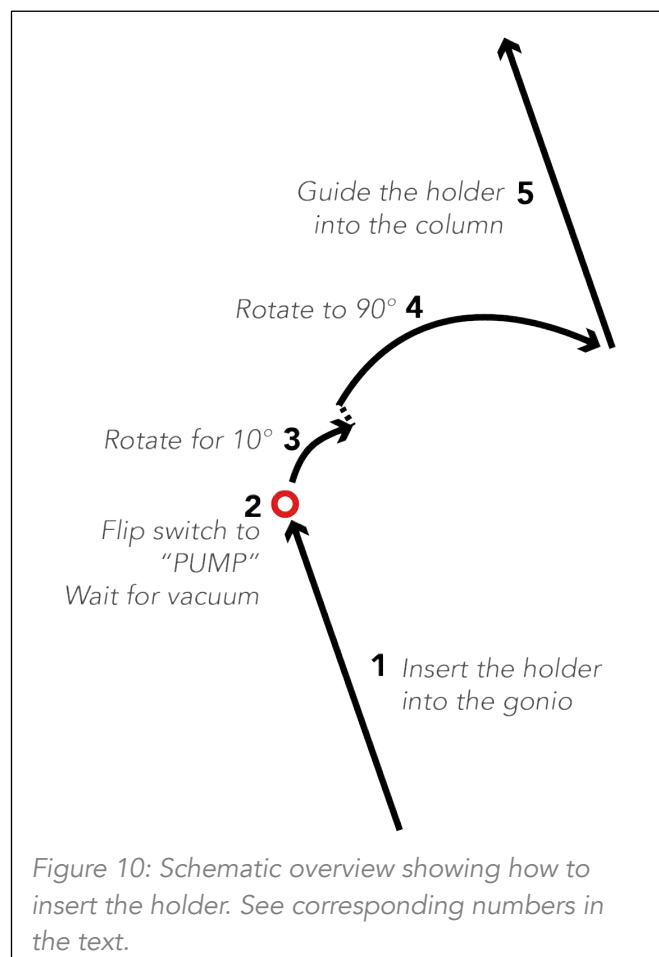

Figure 12: How to support the holder while inserting it into the TEM. One-handed: with the index finger. Two-handed: with the thumb of the left hand.
3. Once the vacuum is good, get a good grip on the holder. (Figure 12). Rotate the holder clockwise. After about 10° the holder will be pulled inside the TEM for about 0.5 cm.